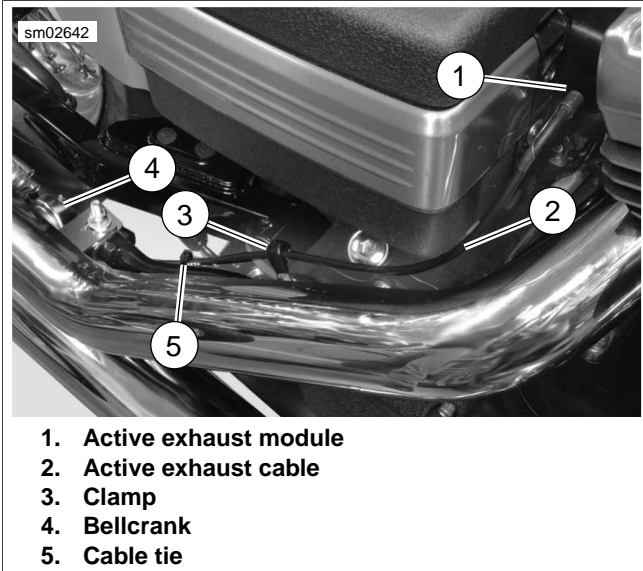
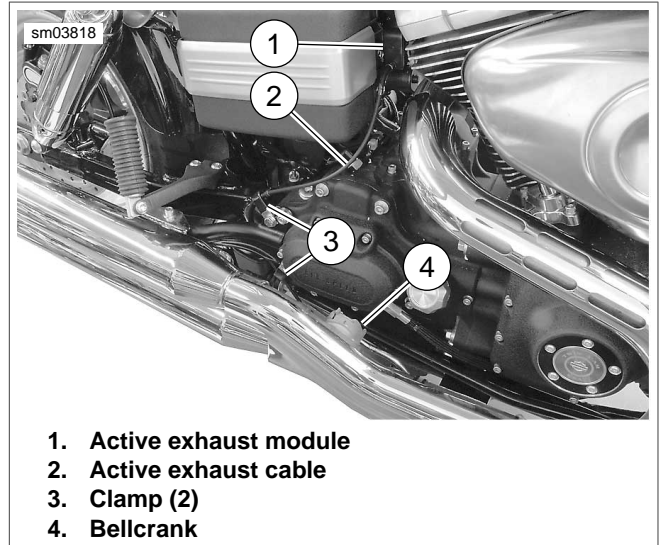

Figure 7-74. Active Exhaust Cable: All but FXDF
Figure 7-75. Active Exhaust Cable: FXDF
2. Clip cable housing into active exhaust module housing (2).
4. Install fasteners (4) and washers (3). Tighten to 36-60 in-lbs (4.1-6.8 Nm).
5. See Figure 7-74 or Figure 7-75. After installation, be sure active exhaust cable is routed correctly and does not